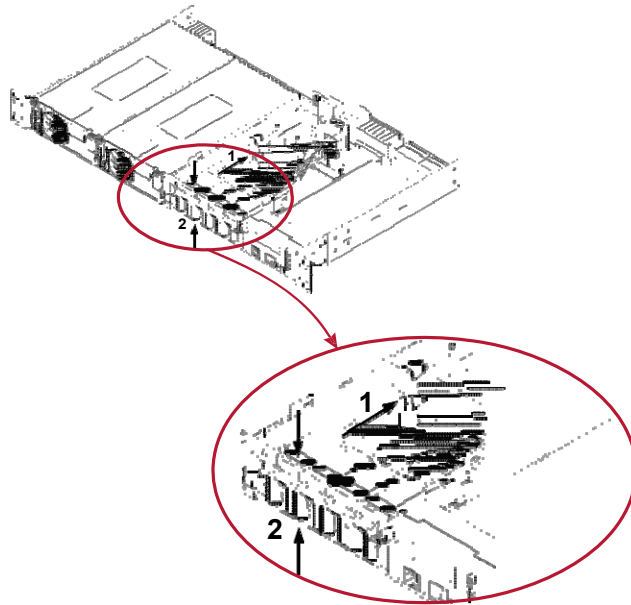

Figure 7-6 Breaker Removal - A
2. Pull the Faston connector from the circuit breaker, see detail in Figure 7-6 (1).
3. Press the top and bottom of the breaker, Figure 7-6 (2) to disengage it from its place and pull it out, Figure 7-7.